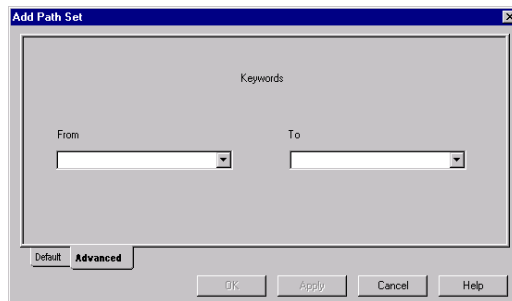

Figure 2-3. Add Set Dialog Box
3. Click the **Advanced** tab (Figure 2-3).